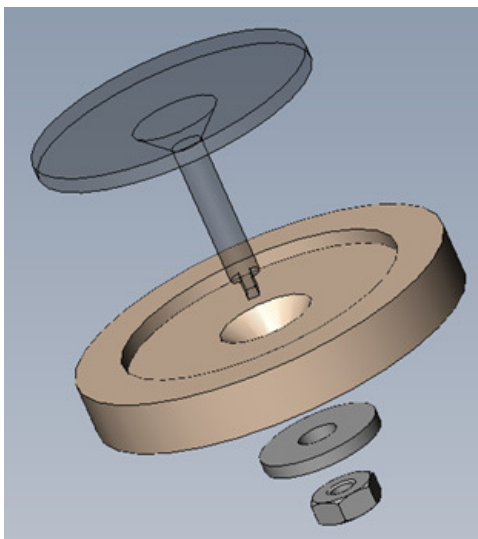

Figure 33.23.: Experimental Parafilm sample mount 939.018.
1. Locate 939.018, which is the sample mount shown in Figure 33.23 on page 527.